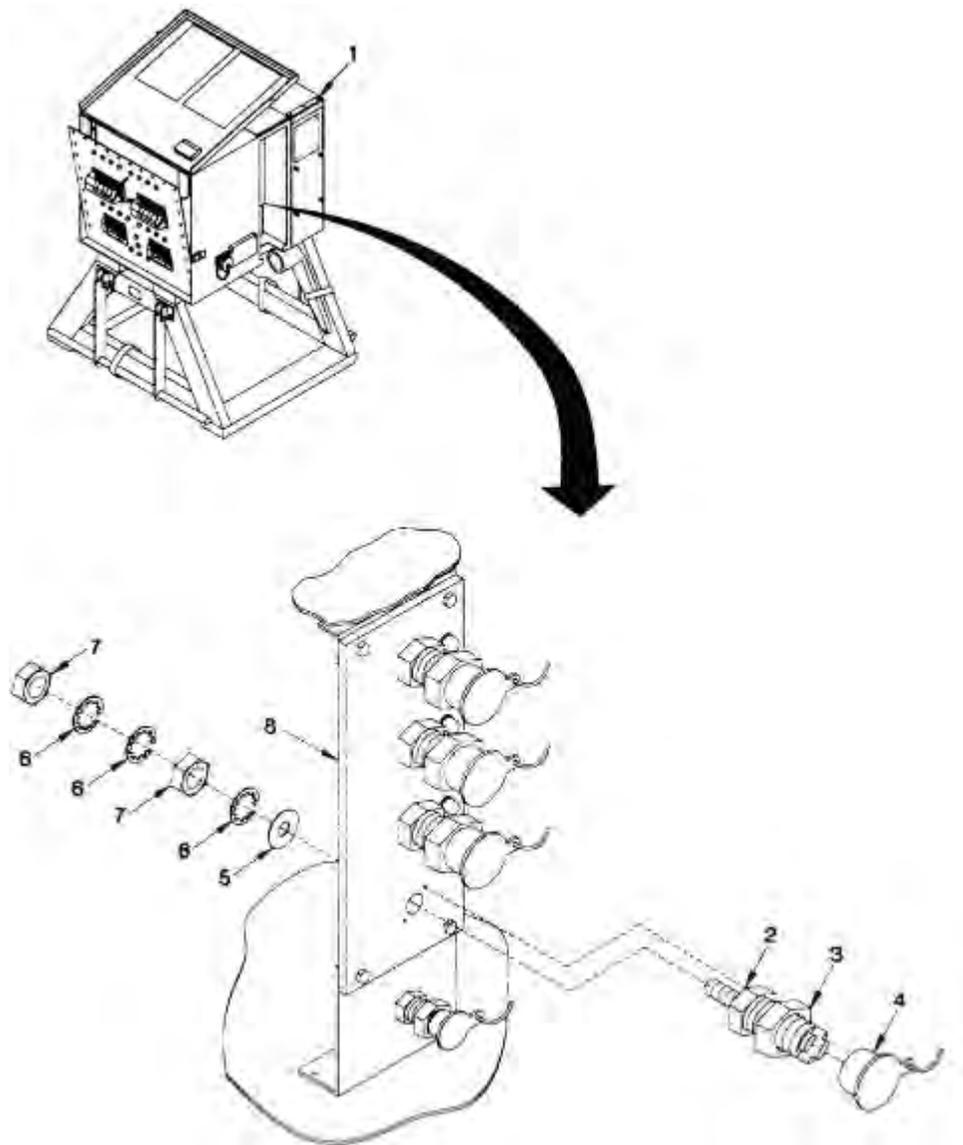

Figure 1. Circuit No.'s 1 and 2 Terminal Post.
8. Perform steps contained in WP 0027 to gain access to rear of terminal post mounting plate (8).
9. Open circuit no. 1 or 2 side panel access cover (Figure1, Item 1) and secure it in open position.
10. Slide terminal post (Figure1, Item 3) through front of terminal post mounting plate (Figure1, Item 8). Align terminal post so that terminal post anti-rotation stud (Figure1, Item 2) fits into pre-cut hole in mounting plate. On rear of terminal post mounting plate (Figure1, Item 8) on PP-8440/ASM, install one flat washer (Figure1, Item 5), two lock washers (Figure1, Item 6) and one nut (Figure1, Item 7). Tighten nut (Figure1, Item 7). On rear of terminal post mounting plate (Figure1, Item 8) on PP-8440A/ASM, install two flat washers (Figure1, Item 5), one lock washer (Figure1, Item 6) and one nut (Figure1, Item 7). Tighten nut (Figure1, Item 7).
11. Place tagged wire(s) on terminal post (Figure1, Item 3) and secure wires by installing one lock washer (Figure1, Item 6) and one nut (Figure1, Item 7). Remove tag(s) from wire.
12. On front of terminal post mounting plate (Figure1, Item 8), place terminal post safety cover (Figure1, Item 4) on terminal post.
13. Close and secure side panel access cover (Figure1, Item 1).